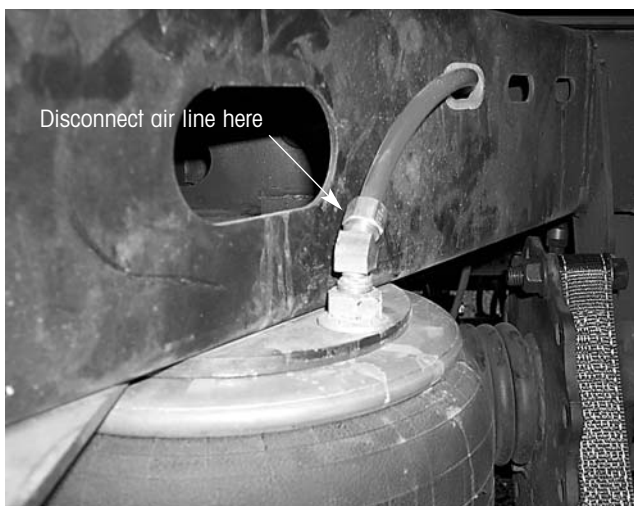

Figure 7. Air spring/air line connection
9. Disconnect the air line from the air spring (figure 7).